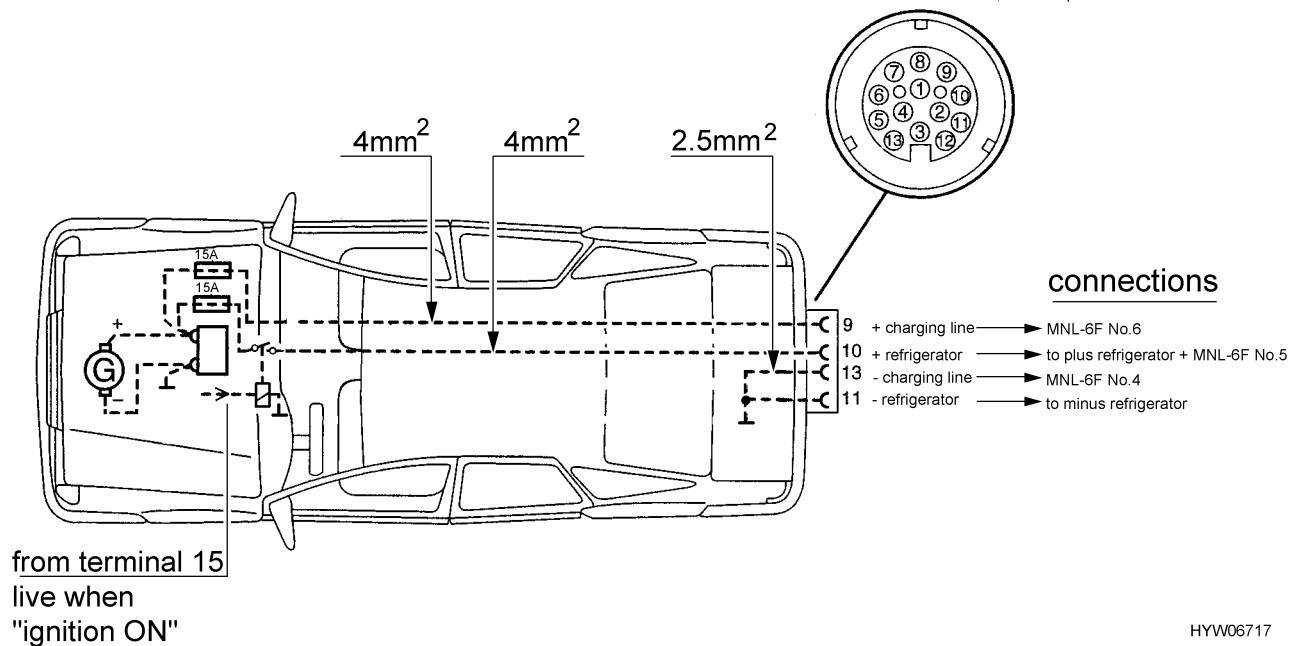

Fig. 67 Towing vehicle installation diagram (Power Pack SE)
- ▷ The towing vehicle must be retrofitted with the corresponding cable cross sections and a relay (Fig. 67,1) for power the supply (controlled using the ignition) (see Fig. 67).